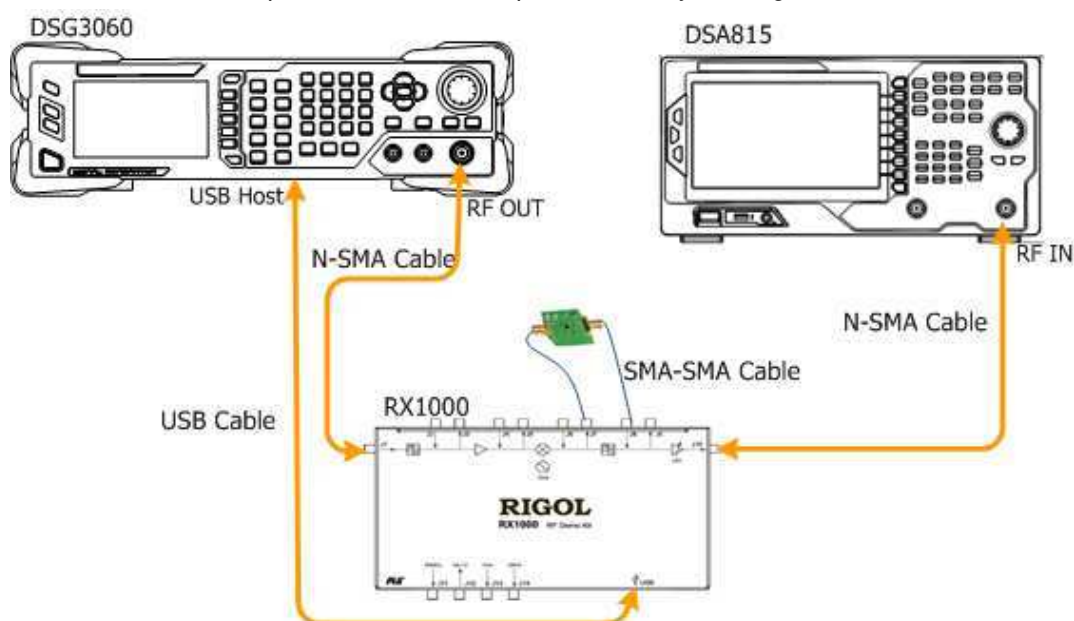

Figure 9 The Influence of the Performance of the Filter on the System
1. Connect the DSG3000 series RF signal generator and RX1000 using USB cable; connect the J1 terminal of the RX1000 and the RF output interface of the DSG3000 using an N-SMA cable; connect the J10 terminal of the RX1000 and the RF input interface of the spectrum analyzer using another N-SMA cable; connect the low-pass filter to J7 and J8 using two SMA-SMA cables (to replace the internal low-pass filter of RX1000) as shown in Figure 9.